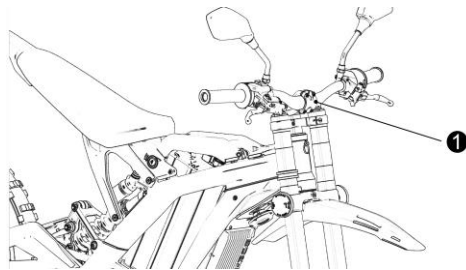

Fig 59
13.1 Adjust handlebar (see Fig 59)